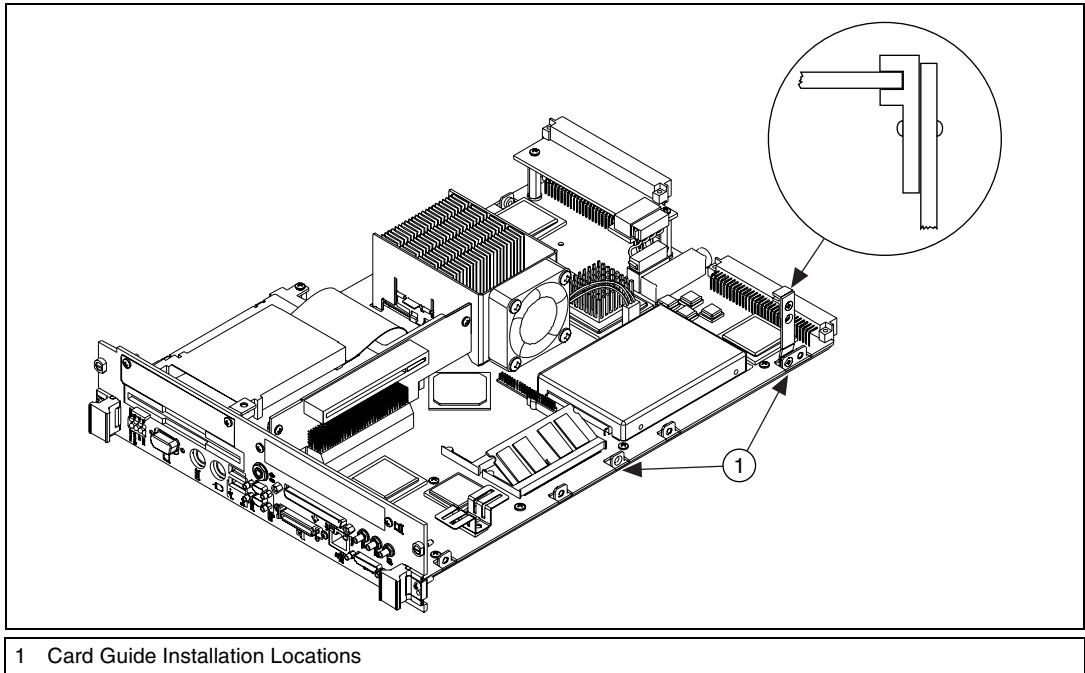

Figure B-2. Card Guide Configuration and Location for a PCI Expansion Card in a VXIpc-872B and VXIpc-875B
1. Notice that the VXIpc-872B and VXIpc-875B include one card guide to secure the top of a PCI plug-in board. You may use the card guide in either of two locations, depending on the length of your installed board. Loosen the screw holding the guide and rotate the guide to the uppermost position for PCI boards. Refer to Figure B-2.